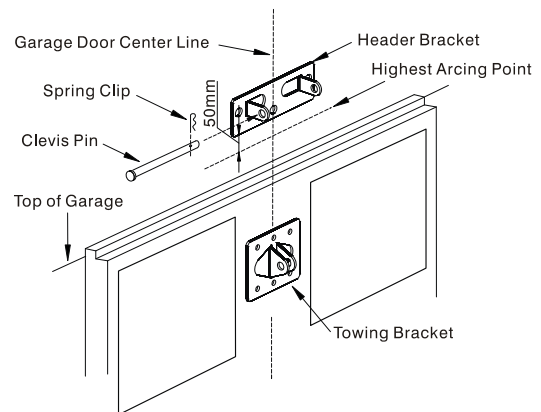

Fig. 5
- Header Bracket (Fig.5) may be mounted on front wall of garage or on ceiling adjacent to the front wall.
- Determine the Garage Door Center Line and mark a vertical line on the header above the door. (Fig.5)
- Place the Header Bracket on the wall as depicted in Fig.5 and ensure that the bottom edge of the bracket is **no more than 50mm above the Highest Arcing Point**. Mark the location of the 2 outer most screw holes.
- Determine the Garage Door Center Line (Fig.5) and affix the Towing Bracket to a structural member of the garage door. The Towing Bracket should be mounted with reference to the top edge of the garage door in accordance with the appropriate diagram as depicted in Sec.1.